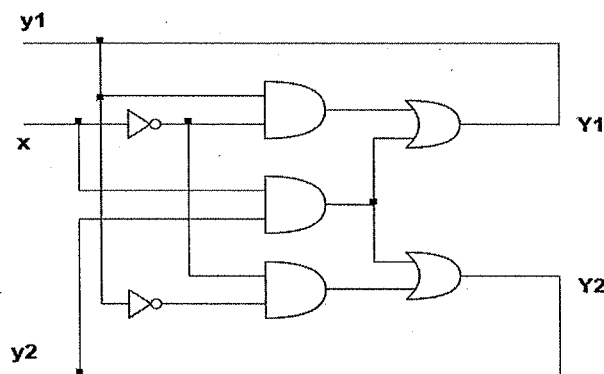

Figure 1: Digital Circuit
- iv. Draw the following tables to the given circuit (Figure 1).